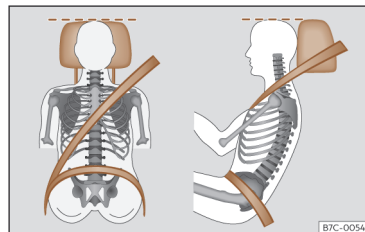

Fig. 15 Correct belt web and headrest positions
- Adjust the head restraint so that its upper edge is, as far as possible, at the same level as the top of your head, as close to eye level as possible¹⁾ >>> page 113. Keep the back of your neck as close as possible to the headrest >>> Fig. 15.
- Adjust the seat lengthwise so that you can fully step on the pedals with your knees slightly bent and there is a distance between the knee area and the instrument panel of at least 10 cm (4 inches) >>> Fig. 15.